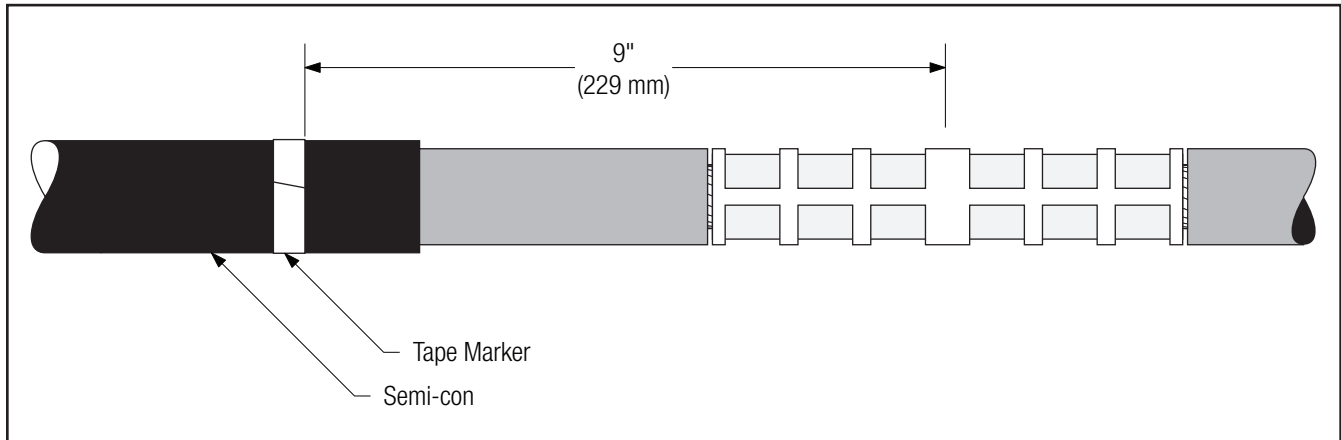

Figure 13
- 4.1 Apply a tape marker to semi-con insulation shield on cable which does not contain splice. Measure 9" (229 mm) from center of connector (*Figure 13*).